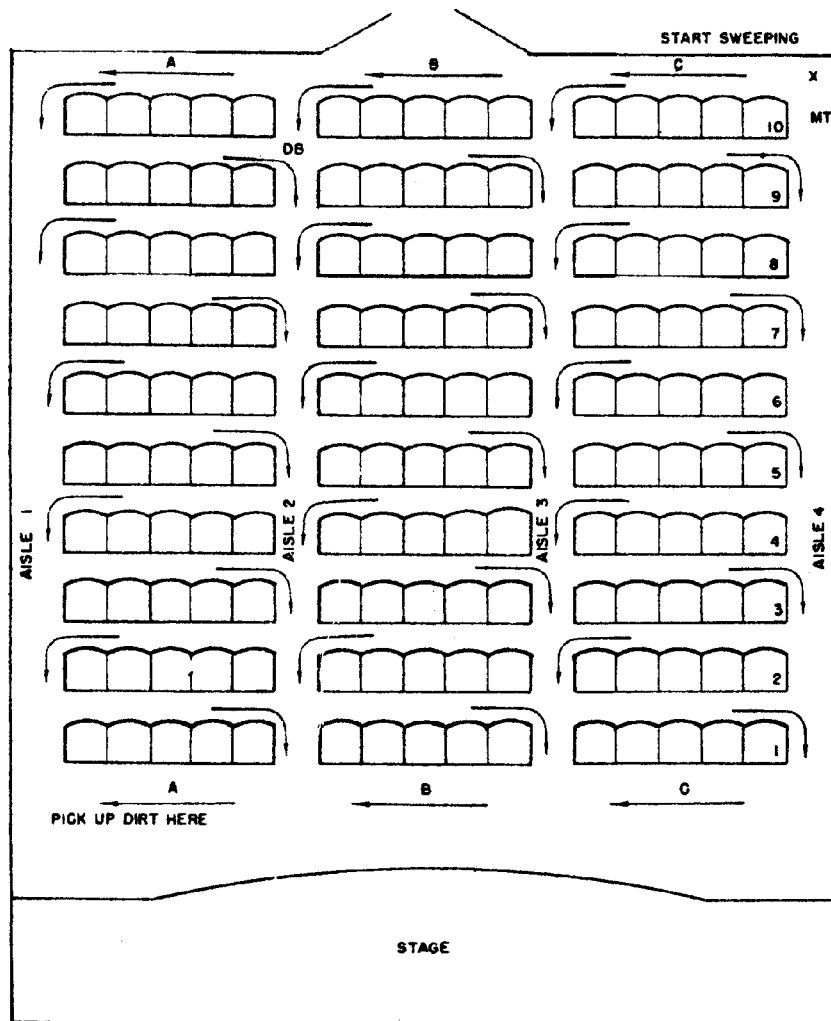

Figure 33. Theater Sweeping Pattern.
(1) Place dustpan and counter brush at lower end of aisle 1. (fig. 33 "pick up dirt here.")
(2) Place dustbox at point "DB" of illustration.
(1) Start at point "X" (in fig. 33) and sweep space back of seats, push dirt into aisles and past rear row of seats. Enter space between last two rows of section A and sweep toward aisle 2, turning seats up and sweeping under them. When aisle 2 is
(1) Place dustpan, dustbox, and tools at lower end of aisle as indicated in figure 33 where labeled "pick up dirt here."
- (2) Brush dust from radiators.